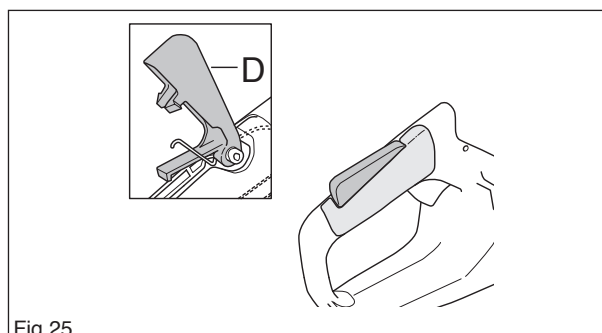

Fig 25
Fit the throttle lock (D) by pressing it onto the shaft in the handle. (see figure 25)
Assemble the handle insert using a screw, when the throttle control, lever, throttle cable and throttle control lock with pin are fitted correctly. (see figure 25)